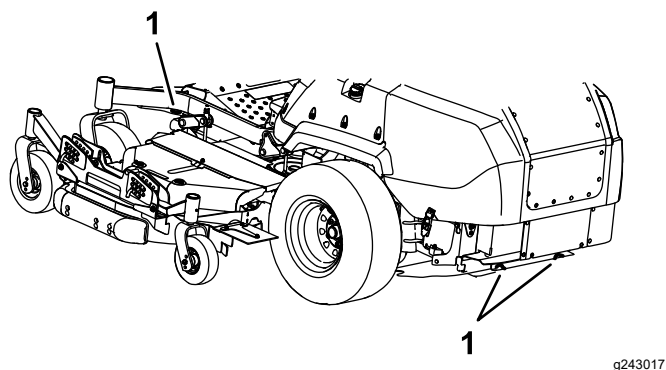

Figure 36
6. Tie down the machine near the front caster wheels and the rear frame with straps, chains, cable, or ropes (Figure 36). Refer to local regulations for tie-down requirements.